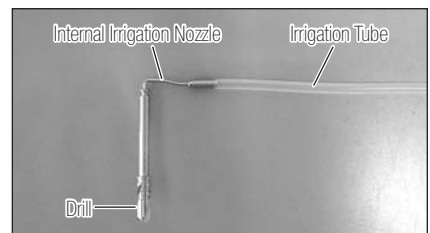

Fig. 15
- 3) Insert the Internal Irrigation Nozzle into the drill from the back (Fig 15).